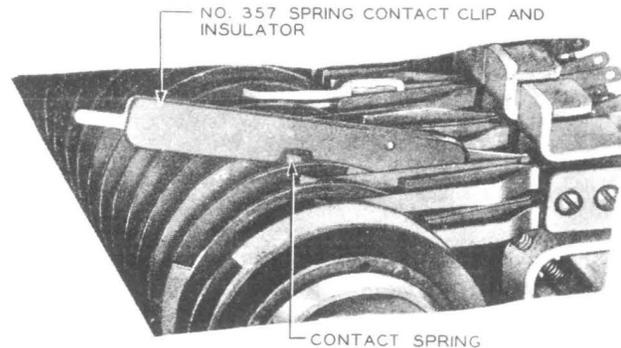

Fig. 16 — Method of Using the No. 357 Contact Clip and Insulator for Sequence Switches
3.08 Procedure for Making Connections to Sequence Switch Springs Using the No. 357 Contact Clip and Insulator: Fig. 16